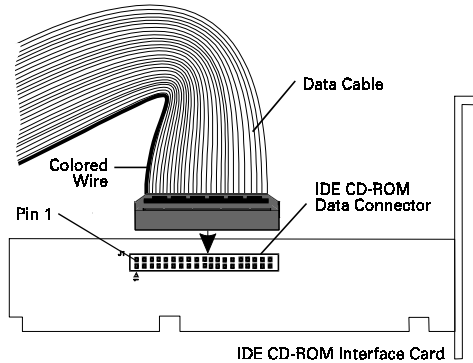

Figure 2-17: Connecting the data cable to the interface card.
1. Connect the data cable to your IDE CD-ROM interface card as shown in Figure 2-17. Make sure you align the colored wire on the cable to Pin 1 of the IDE CD-ROM Data Connector.